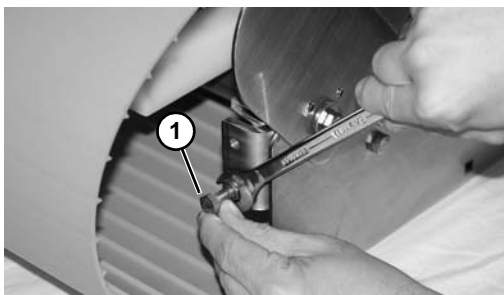

Figure 12
*Loosen nuts and adjust screws (**Figure 12, item 1**) to level tail (as needed).*